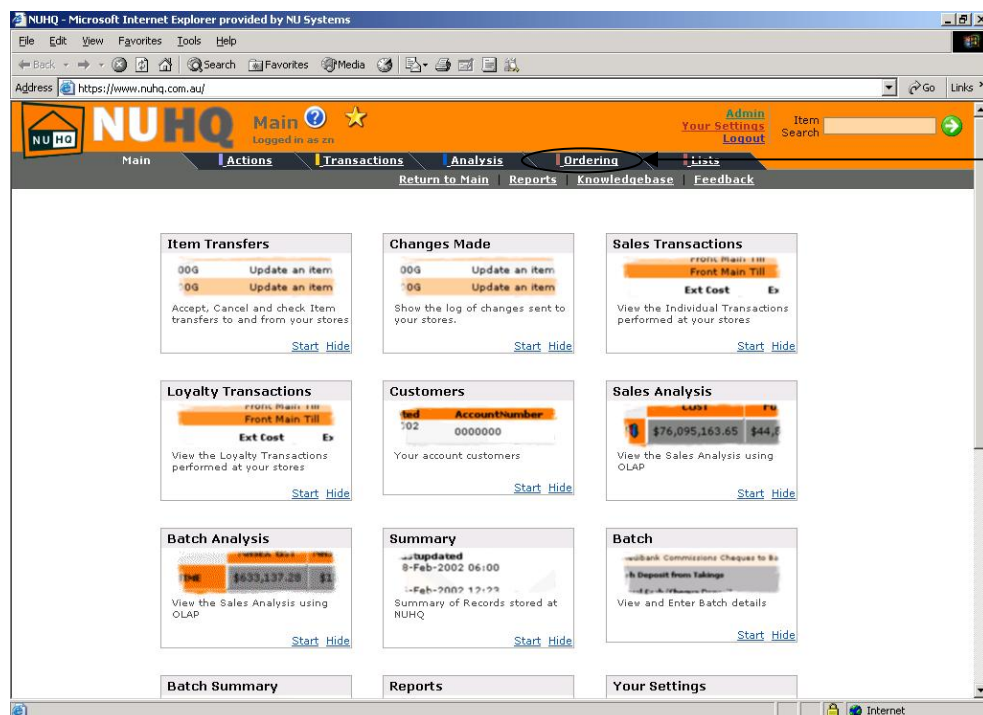

Figure 7: Ordering Menu
- Click the **Ordering** Menu, refer to Figure 7